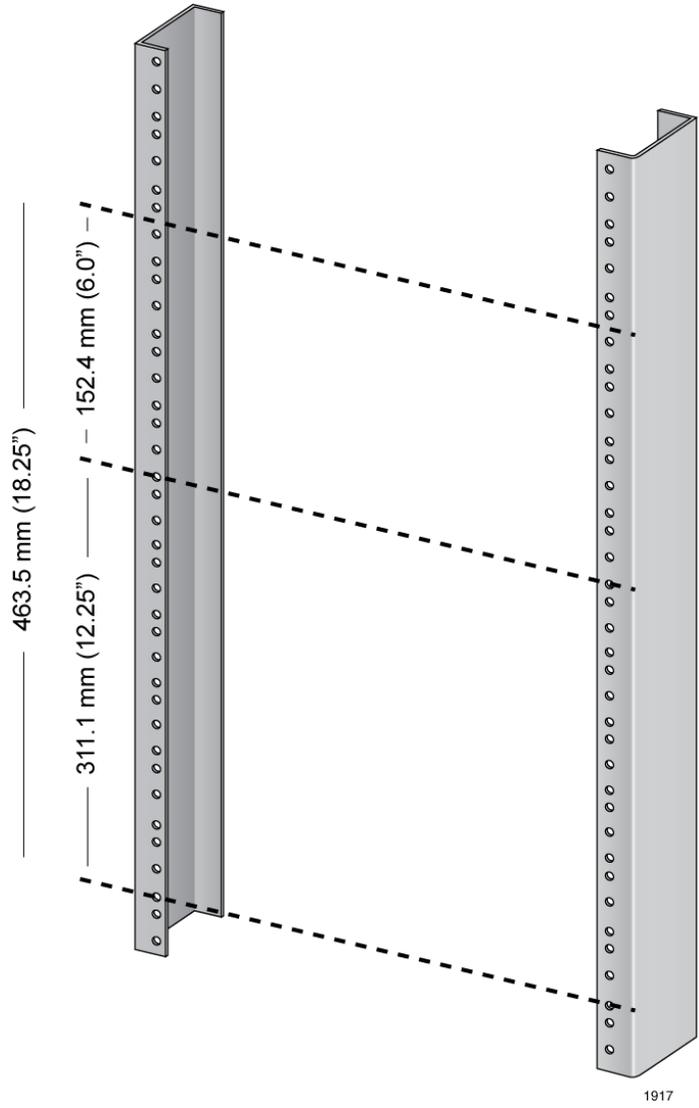

Figure 32. Reserving Vertical Rack Space
1. Reserve 311.1 mm (12.25") of vertical rack space for the installation of the AT-SBx8112 Chassis, as shown in Figure 32 on page 96.